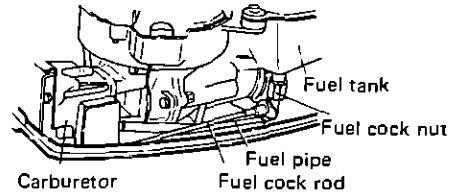

Fig. 20 Fuel line in the engine
- Check the fuel filter in the fuel cock nut for dirt. (Fig. 20)